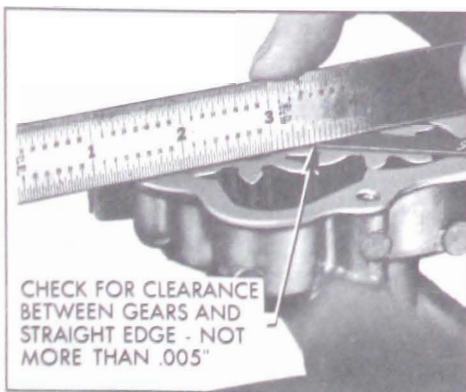

Figure 2-43—Checking Clearance of Gears at Cover
6. Check for clearance between gears and cover by using a straight edge as shown in Figure 2-43.